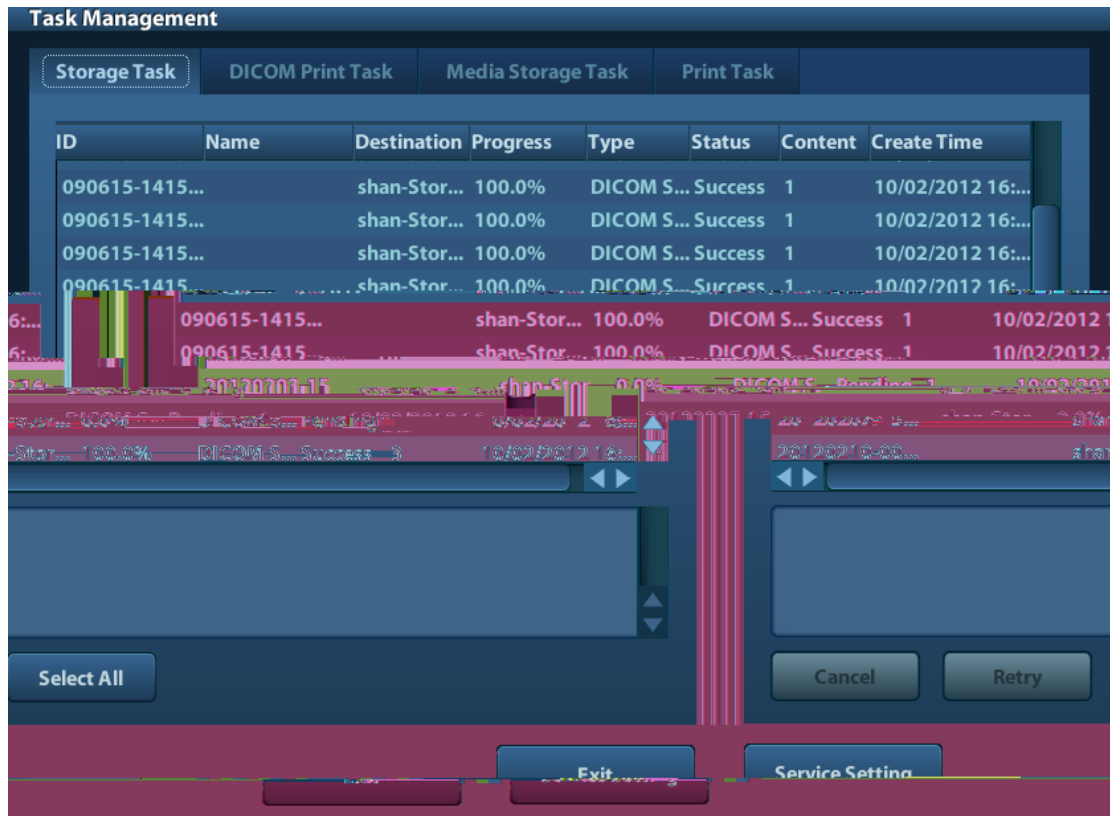

Figure 13 Task Management
6. Click  in the right corner of the screen to open Management, in which, you can review sending status. Select one record, and there is sending result in prompt dialog box, as shown in Figure 13 **Task Management**.